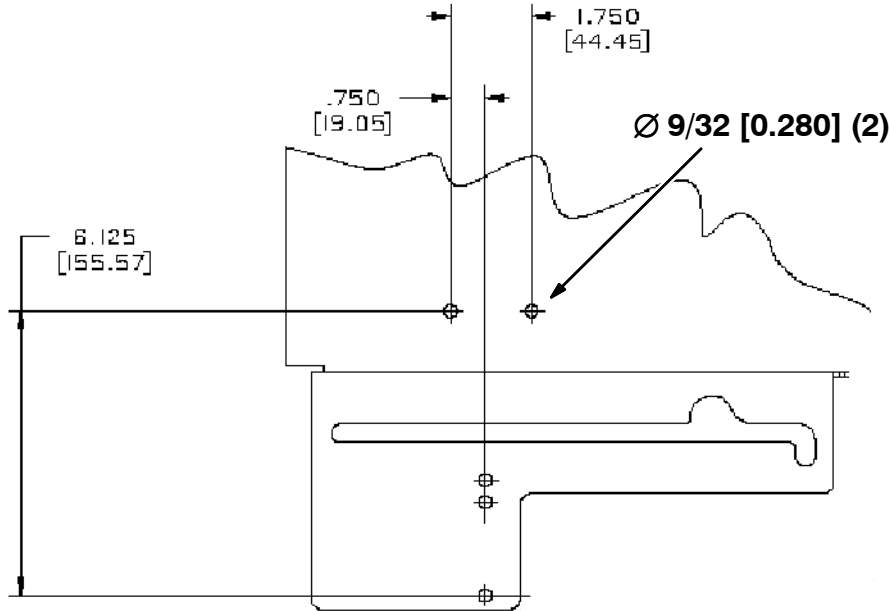

FIG. 4 - REWORK, SEAT SUPPORT PANEL
(Refer to FIG. 4 thru 10)
(Refer to FIG. 4 and 10)
2. Using the new LPG regulator/lockoff mounting bracket as a template. Mark and drill two new 9/32 (0.280) mounting holes with the dimensions shown in figure 4. (Refer to FIG. 4)